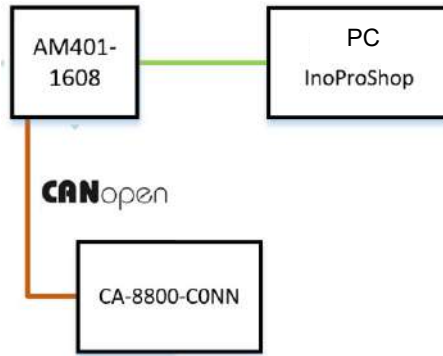

Figure 5-6-9 Communication connection diagram
1. Communication connection diagram, as shown in Figure 5-6-9 shown.